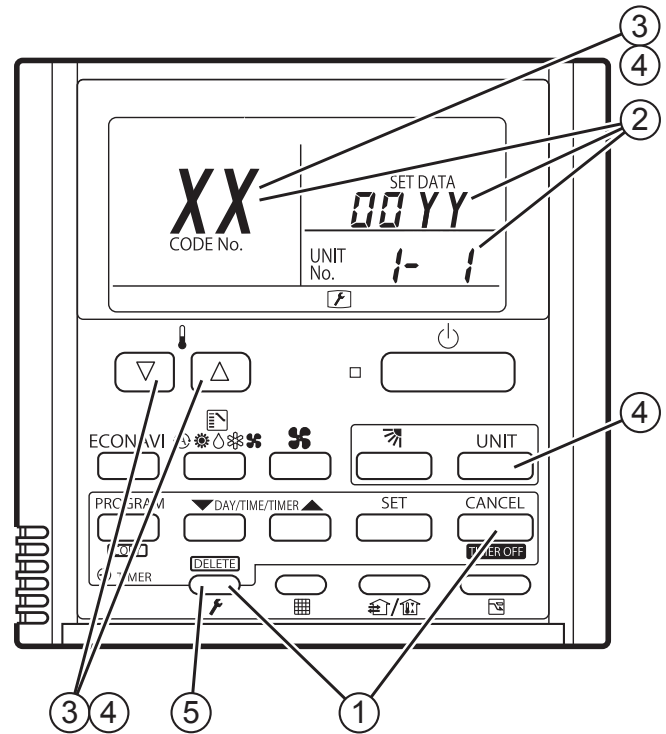

Fig. 3
- ① Press and hold the  and  buttons simultaneously for 4 seconds or longer.
- ② The unit No. "X-X" (main unit No.), item code "XX" (sensor address), and servicing monitor "00 YY" (sensor temperature) are displayed on the remote controller LCD display. (See Fig. 3 at right.)
- ③ Press the temperature setting  /  buttons and select the item code to the address of the sensor to monitor.
- ④ If group control is in effect, press the  button to select the unit to monitor. Press the temperature setting buttons to select the item code to change.
- ⑤ Press the  button to return to normal remote controller display.